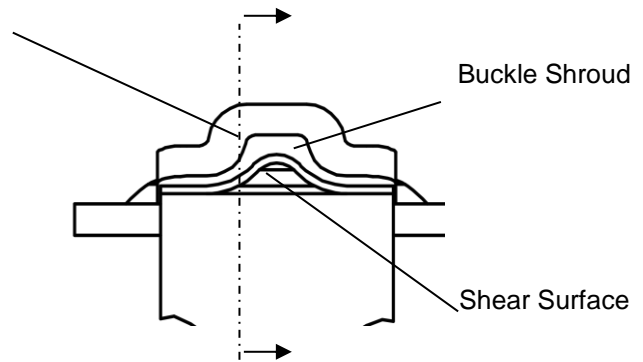

Figure 7
3. Inspect buckle on completed clamp and tap down buckle shroud as shown on Page 11 Figures 7 and 8.